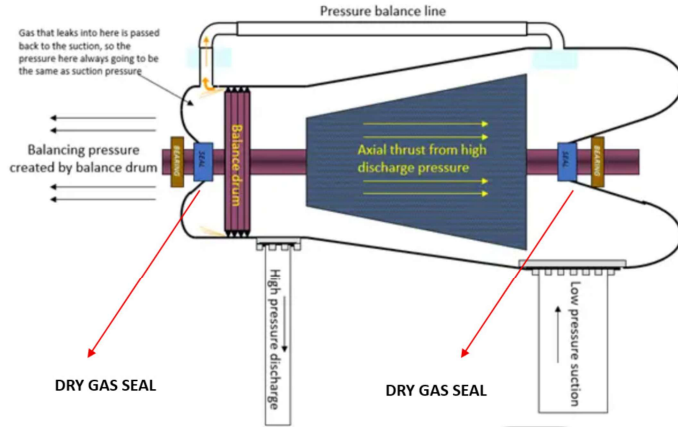

Figure 12. Dry gas seal location on compressor shafting.
- The thrust created by the high-pressure discharge pushing the compressor rotor back towards the suction is canceled by creating opposing thrust using a balance drum. (Figure 12)